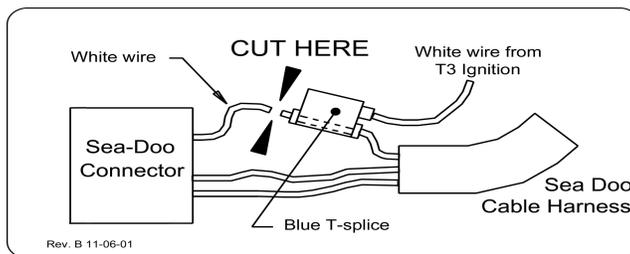

Figure 4
4. Using a pair of wire cutters, cut the White wire that runs between the T-splice and the Sea-Doo® connector (see Figure 4). Cut the wire midway between the T-splice and the Sea-Doo connector. This will leave a pig tail on the Sea-Doo connector to reconnect the stock ignition if it becomes necessary.